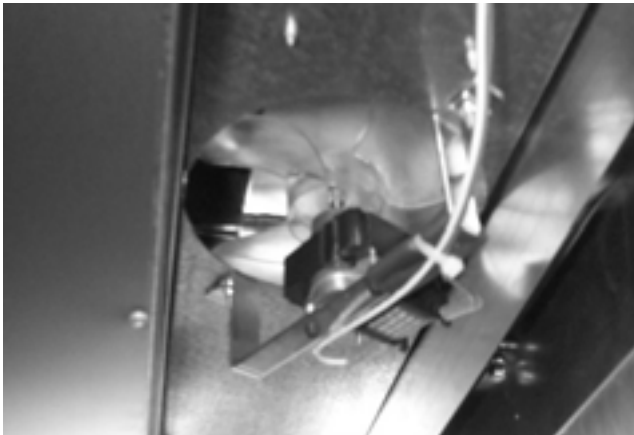

Figure 4-6
2. Disconnect the (2) terminal connectors from the motor (Figure 4-6).